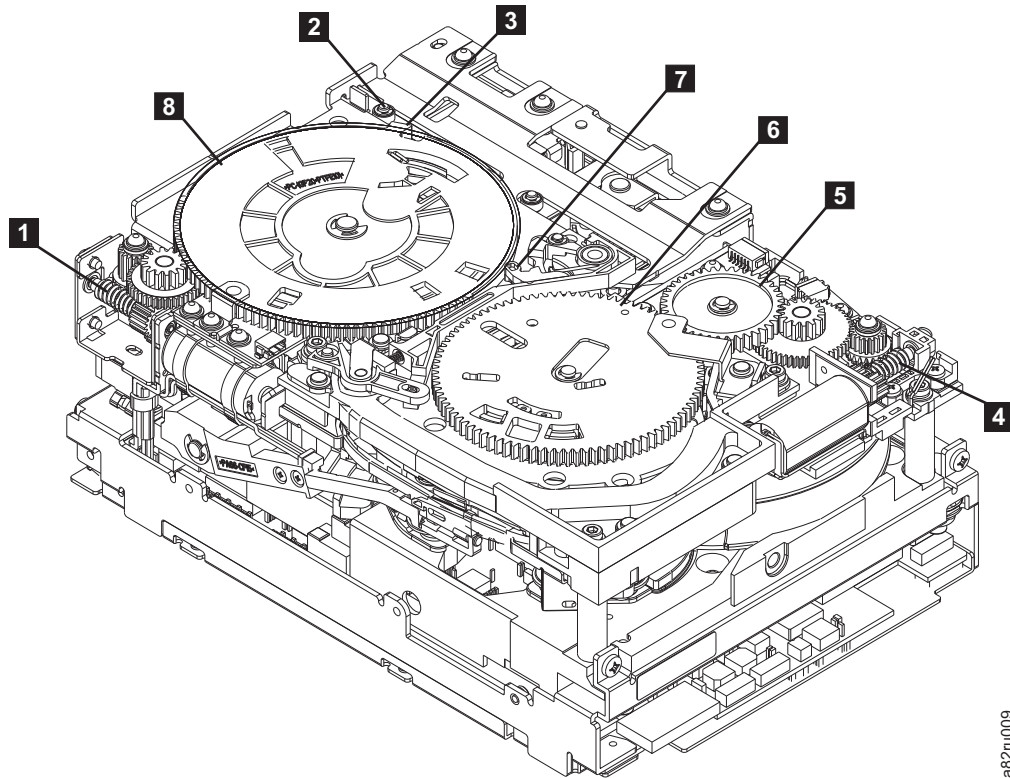
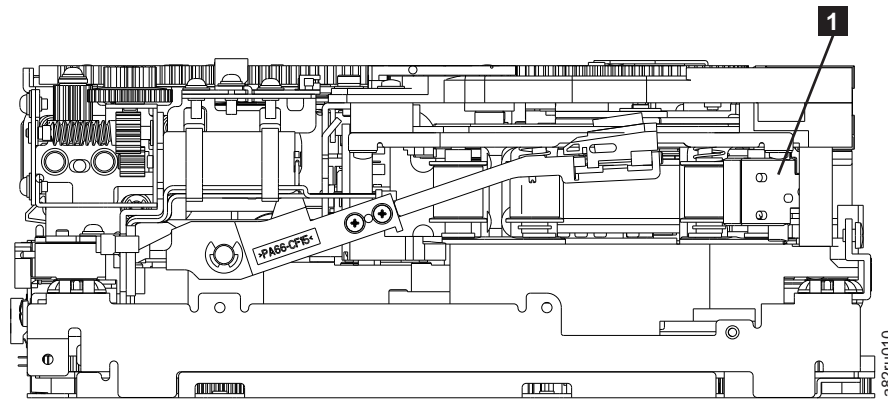

Figure E-7. Drive with cover removed to reveal gear train.
Figure E-8. Leader Block Assembly (LBA)
3. Locate the threader motor worm gear (**4** in Figure E-7) the rear of the drive. Use your finger to rotate the threader motor worm gear and slowly rotate the threader mechanism gear (**6** in) clockwise.. This rotates the threader motor worm gear (**4** in Figure E-7) clockwise, drawing the tape leader block assembly (LBA) into the cartridge.
4. As the LBA is secured in the cartridge, you should hear the LBA retention spring clips click into place. If you do not hear the click, continue rolling until the threader motor worm gear (**4** in Figure E-7) stops. The LBA is in the correct position.
- a. Loader mechanism gear (**8** in Figure E-7 on page E-8) nearest the front of the drive that actuates the cartridge loader mechanism
- b. Position of the rotator stub (**3** in Figure E-7 on page E-8).
- c. Front loader motor worm gear (**1** in Figure E-7 on page E-8). Rotating this gear allows the loader mechanism gear (**8** in Figure E-7 on page E-8) to turn.
6. Rotate the loader motor worm gear (**1** in Figure E-7 on page E-8) to turn the loader mechanism gear (**6** in Figure E-7 on page E-8) counterclockwise. Continue turning until the rotator stub (**3** in Figure E-7 on page E-8) loses contact with the lever (**7** in Figure E-7 on page E-8). This releases the LBA leader pin.
7. Rotate the threader motor worm gear (**4** in Figure E-7 on page E-8) to turn the threader mechanism gear (**6** in Figure E-7 on page E-8) counterclockwise. This moves the LBA out of the cartridge and past the read/write head. Stop this rotation when the LBA is near the tape guide roller nearest the rear of the drive (**1** in Figure E-8).
8. Continue rotating the loader motor worm gear (**1** in Figure E-7 on page E-8) until the rotator stub (**3** in Figure E-7 on page E-8) is positioned as shown. Notice that the rotator stub (**3** in Figure E-7 on page E-8) is nearly aligned with the cartridge loader tray guide bearing (**2** in Figure E-7 on page E-8).